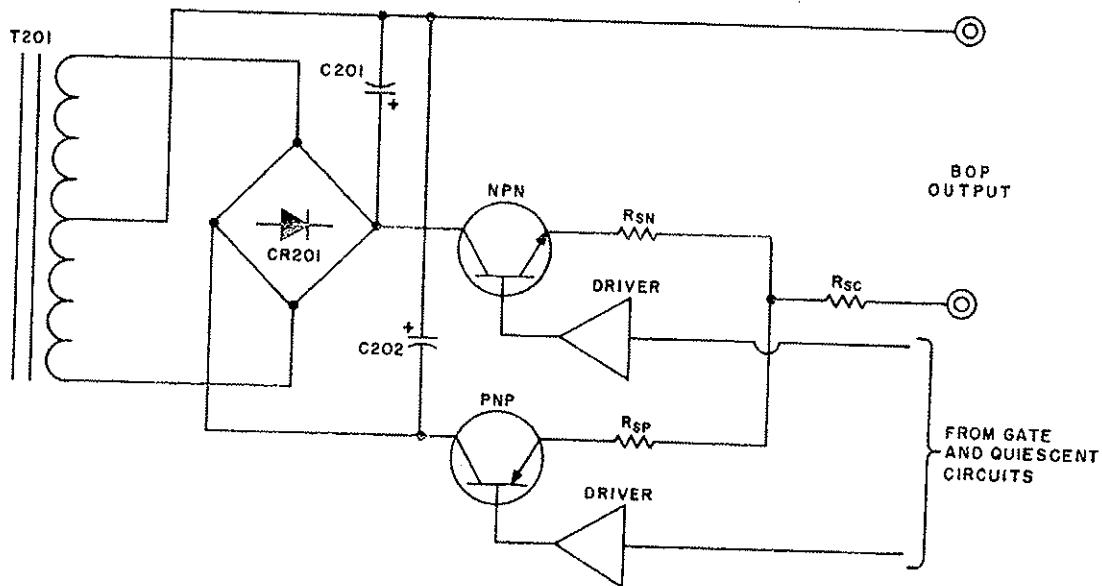

FIG. 4-2 MAIN D-C SUPPLY AND NPN/PNP POWER STAGE WITH DRIVERS.
- 4-21 MAIN D-C SUPPLY.** The dual MAIN D-C SUPPLY is derived from the center tapped secondary winding on the main transformer (T201). Rectified by a bridge rectifier (CR201) and capacitor filtered (C201,C202), the raw d-c voltages are applied to the NPN/PNP POWER STAGE as shown in FIG. 4-2. The MAIN D-C SUPPLY delivers the output current of the BOP via the series connected NPN/PNP POWER STAGE. All filter capacitors are paralleled by bleeder resistors (R201,R202).
- 4-22 OUTPUT POWER STAGE.** The output power stage, shown in FIG. 4-2 as two single complementary transistors, consists in reality of two groups of SERIES/PARALLEL connected NPN/PNP power transistors. The number of NPN/PNP power transistors will depend on the individual BOP model. These power transistors are mounted on a single common heatsink (A4) on 1/4 Rack BOP models cooled by a single fan (B201) and on two heatsinks (A4,A5) on Full Rack BOP models, cooled by two fans (B201,B202)